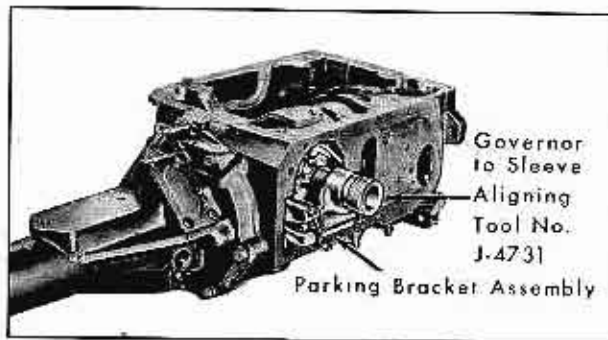

Fig. 14-79 Checking Governor Sleeve Clearance
1. With Governor Alignment Tool No. J-4731 in place between governor and sleeve, Fig. 14-79, tighten the rear pump bolts and parking brake bracket screws. Tool should rotate freely and governor should rotate freely as much as gear backlash allows. Rotate output shaft to turn governor 1/4 turn and check governor and tool again for freeness. If governor or tool bind at any point, loosen bracket and/or rear pump and adjust to give governor free movement. Recheck governor each 1/4 turn for a complete revolution. If bracket cannot be adjusted to give free clearance for complete governor rotation it will be necessary to remove the governor and check the drive flange run out.